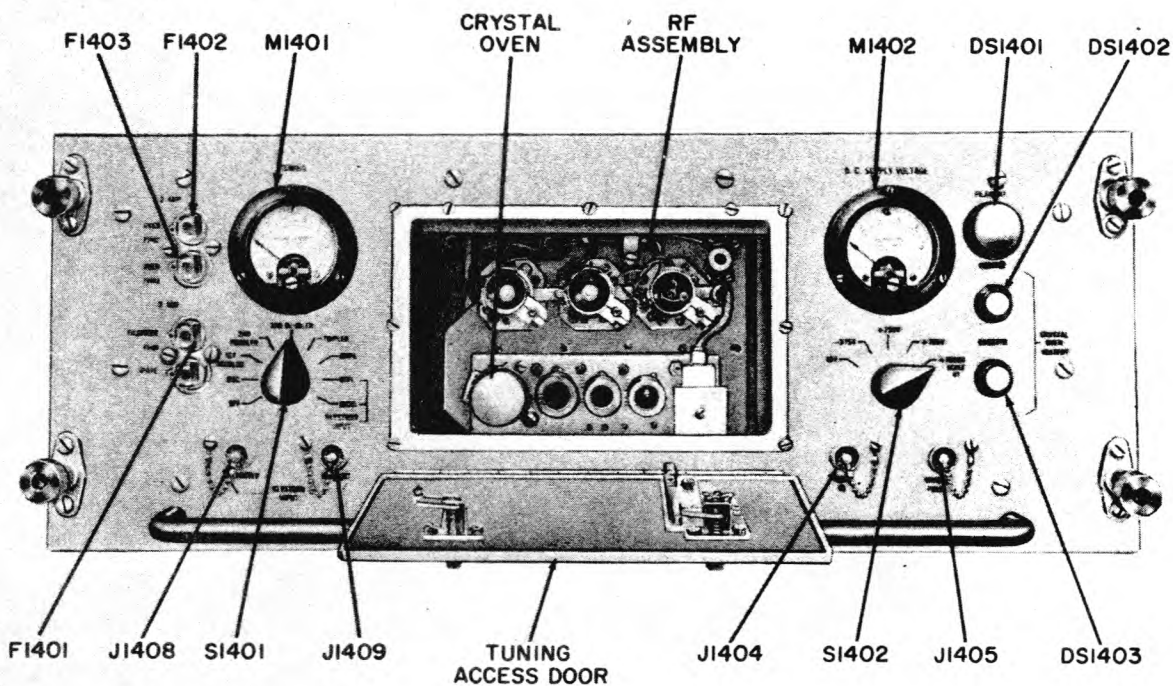

Figure 3-3. Frequency Multiplier-Oscillator CV-1171/GRN-9D, Front Panel View
(4) TRANSMITTER. —The radio transmitter includes the frequency multiplier-oscillator (figure 3-3), the amplifier-modulator (figure 3-4), and the duplexer in the control-duplexer (figure 3-5), and produces shaped r-f pulses spaced at proper time intervals, which are radiated from the antenna. It is capable of transmitting on any one of 126 channels in the frequency ranges of 962 to 1024 mc and 1151 to 1213 mc. The primary function of the duplexer is to permit simultaneous reception and transmission over a common antenna without interference. The receiver and transmitter carrier frequencies are always 63 mc apart.
(5) CONTROL CIRCUITS.—The control circuits of the radio beacon make it possible to automatically energize the units of the beacon in proper sequence so that no unit will be overloaded or damaged due to improper warmup. These circuits provide overload protection; the overload protective relays shut the
(c) Frequency Multiplier-Oscillator CV-1171/GRN-9D (figure 3-3).
FREQUENCY MULTIPLIER-OSCILLATOR CV-1171/GRN-9D (figure 3-3)